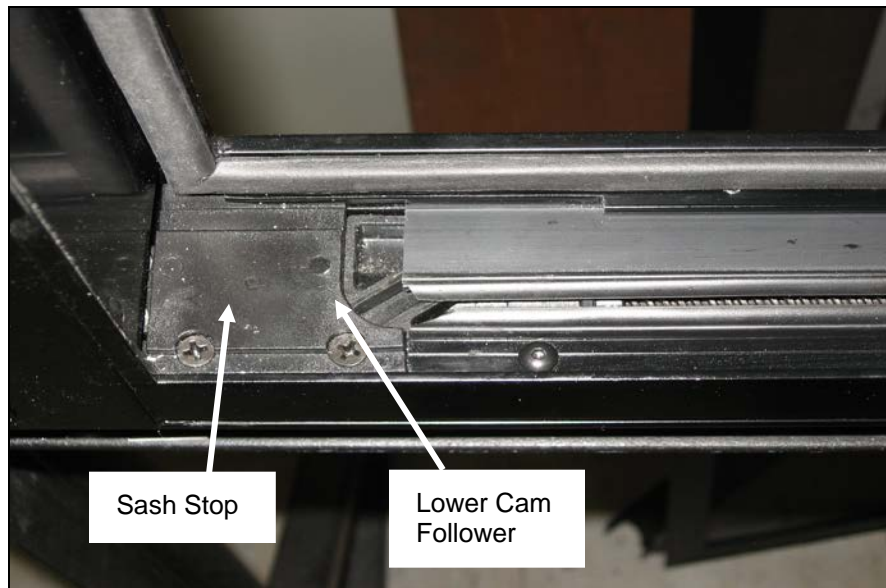

FIGURE 96: DISENGAGING THE BOTTOM OF THE SASH
3. Lift the sash up and out to disengage the bottom of the sash from the window frame. (Figure 96)